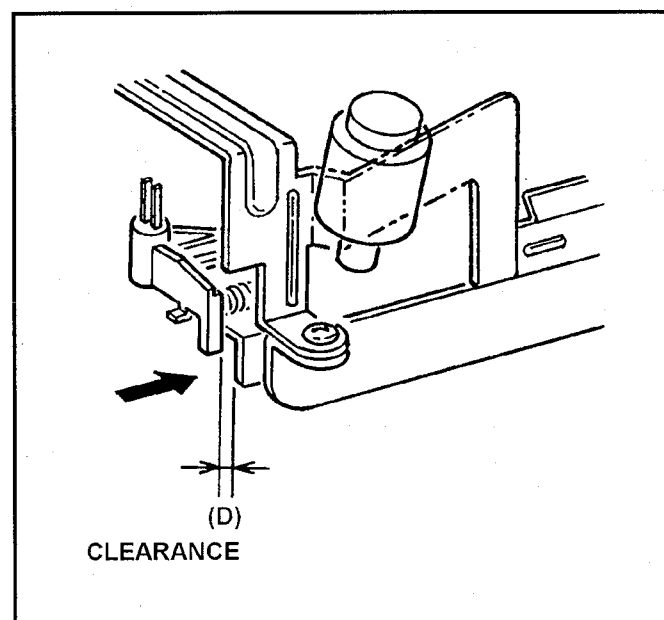

Fig. 10-13-3 Cleaner Solenoid Position Adjustment
1. Observe the **clearance (A)** between Cleaner Roller and Cylinder Unit as shown in Figure 10-13-3. And make sure that it is within **1.0 to 1.2mm**.
2. If not, loosen the **2 screws (B)** and adjust the position of Cleaner Base Plate by moving to arrow direction ($A \leftrightarrow A$) with the Eccentric Driver so that the **clearance (A)** is within specification. And tighten the **2 screws (B)**.